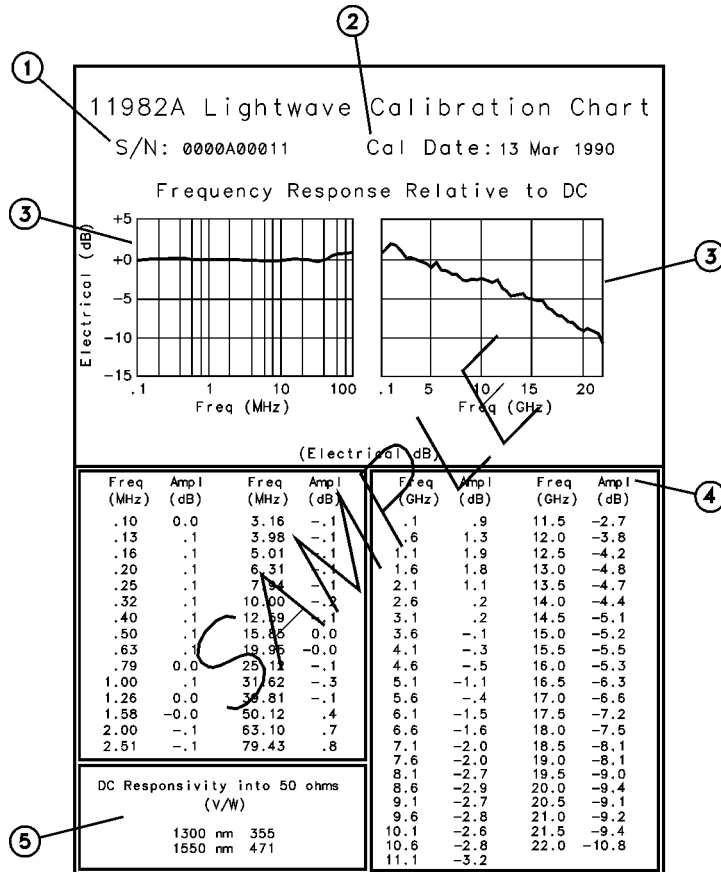

Figure 3-1. The Agilent 11982A Calibration Chart
- 1** Determine the responsivity of your Agilent 11982A for the wavelength of the source. The responsivity of the Agilent 11982A is on the Agilent 11982A Calibration Chart shipped with your instrument and shown in Figure 3-1 on page 3-5. The responsivity is calibrated at two wavelengths: 1300 nm and 1550 nm.